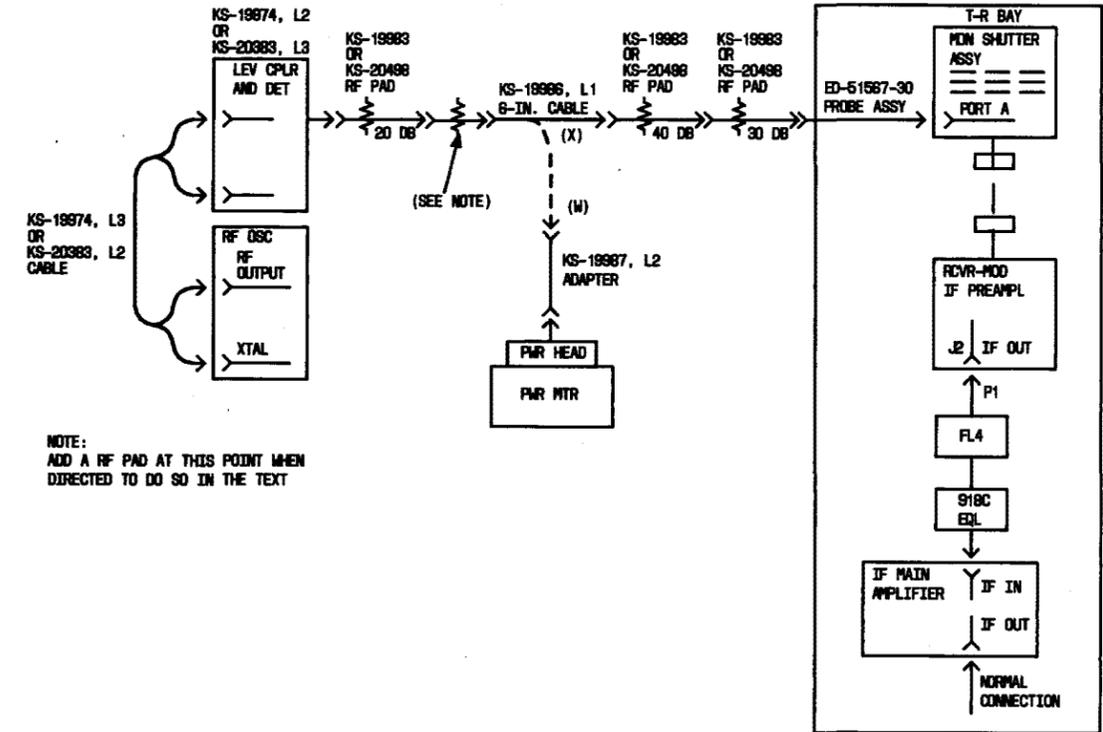

Fig. 13—Space Diversity Switch Point Check Test Setup
- 17 Connect the test setup as shown in Fig. 13, and perform the Preparation for Test.
- 20 While monitoring the RCVD CARR PWR meter indication, decrease the setting of the output control on the RF oscillator until a meter indication is reached which is 1 unit higher than the indication noted in the Preparation for Test. (If necessary, add a 10-dB RF pad as shown in Fig. 13.)
- 21 Establish option (W) and note the power meter indication for use in Step 25.
- 22 Establish option (X); then decrease the setting of the output control on the RF oscillator until the IF switching system operates. (If not added in Step 20, add a 10-dB RF pad as shown in Fig. 13.)
- 23 Establish option (W) and note the power meter indication.
(FIG. 13)**